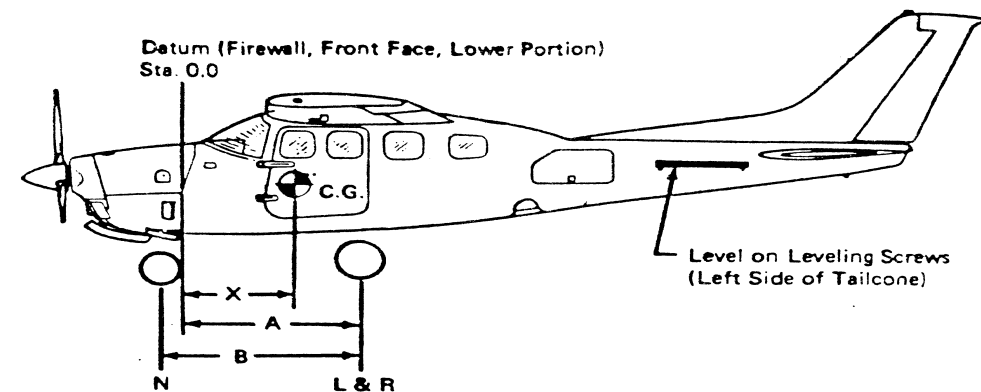

Figure 6-1. Sample Airplane Weighing
- b) Deflate the nose tire and/or lower or raise the nose strut to properly center the bubble in the level (see figure 6-1).
5. Using the weights from item 3 and measurements from item 4, the airplane weight and C.G. can be determined.
6. Basic Empty Weight may be determined by completing figure 6-1.